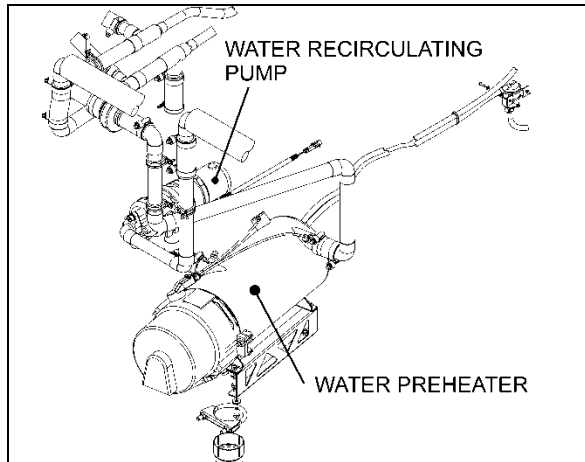

FIGURE 77: PUMP LOCATION – X3 SERIES
- X3 Series - coolant preheater compartment (Figure 77)